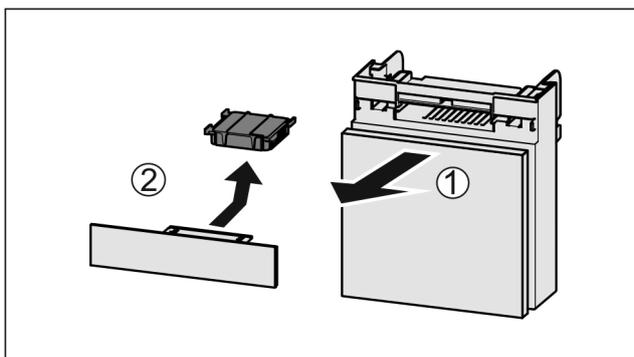

Fig. 175
- ▶ Pull out the compartment Fig. 175 (1).
- ▶ Remove the carbon filter Fig. 175 (2).